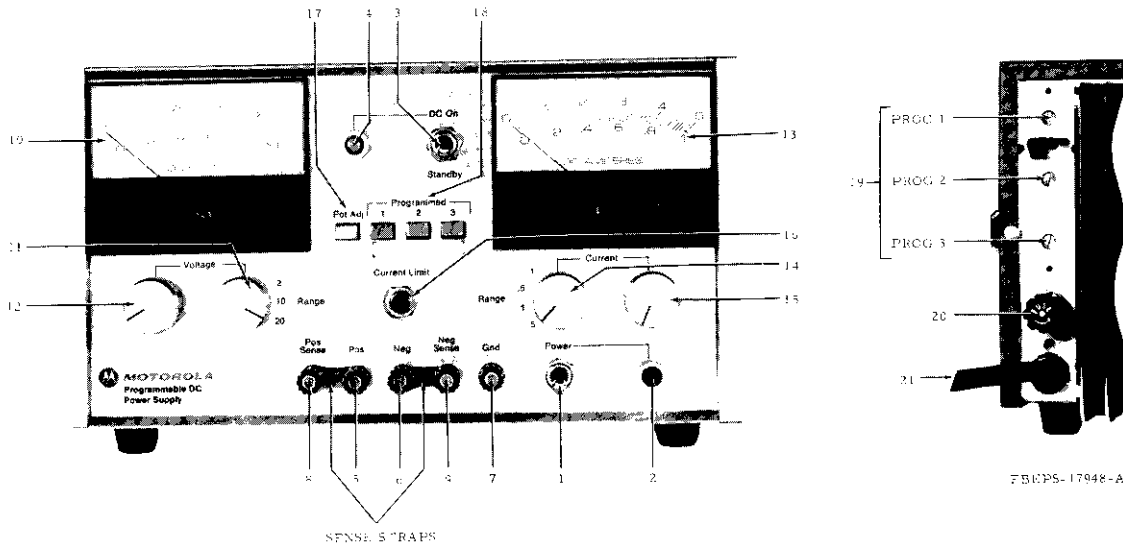

Figure 1. Identification of Operator's Items Model S1348B Programmable DC Power Supply Shown
The location of operator's items is shown in Figure 1.
Step 2. Verify that the sense straps are firmly connected between the binding posts as shown in Figure 1. Do not allow the sense straps to become disconnected while the power supply is operating in the DC ON mode.
The power supply uses the remote sensing feature to maintain a constant voltage across the load regardless of power cable losses. When using the remote sensing function, both the positive and negative terminations at the load are sensed. This requires a four-wire power cable, such as the Motorola Model SKN6026A. Remove the sense straps connected across the power supply binding posts shown in Figure 1; Connect the four-wire power cable to these same binding posts. Except for using the four-wire power cable, operate the power supply as described in the preceding paragraphs.
Step 1. Remove equipment nameplate if it is covering the programmed voltage controls on the rear chassis. These controls are shown in Figure 1.
The following procedures enable a technician to thoroughly check out the power supply during the initial installation or after the unit has been repaired. Be sure the sense straps are connected between the POS to POS SENSE and NEG to NEG SENSE binding posts, as shown in Figure 1.